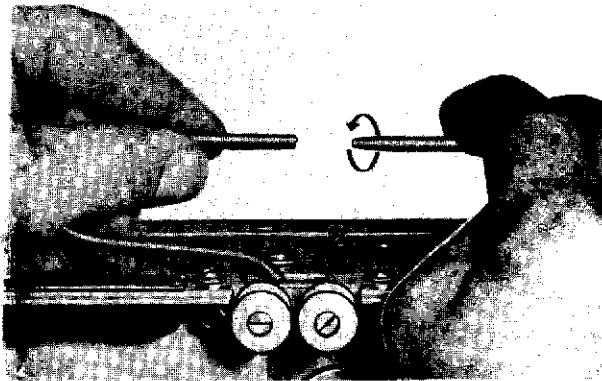

Figure 4-6. Spring Belt Replacement
a. On AQ-2A(1) projectors, replace the spring belt as follows: Insert the smaller threaded end of the new spring belt down through the belt opening in the top of the projector case. Pass it around its belt drive pulley and up through the other belt opening in the projector case, making certain that the belt is not crossed. While holding the larger, female end of the spring belt in the left hand, twist the formed threaded end of the belt toward you (counter-clockwise) the same number of turns as there are formed threads on the end of the belt. This method of belt installation will leave the belt without any tendency to curl or twist. (See figure 4-6.)
b. The AQ-2A(3) projector is equipped with fabric belts. Engage lower end of the replacement belt with its proper pulley, and bring the belt up through the slot in the top of the projector case. With the reel arm thumb screw unscrewed and the locating pins disengaged from the holes in the case, hold the reel arm in position, but with the top tilted forward. Loop the fabric belt over the reel arm pulley and lower the arm back down into place on the projector case, making certain that the locating pins engage their holes. Tighten the thumb screw. Proper belt tension is maintained by loosening the idler pulley screw and rotating the pulley eccentric. When properly adjusted, it should be possible to hold the take-up reel and the belt should continue to drive the clutch. To check feed reel belt adjustment, touch the reel intermittently during rewind. The belt should not slow down or falter when the reel is touched.